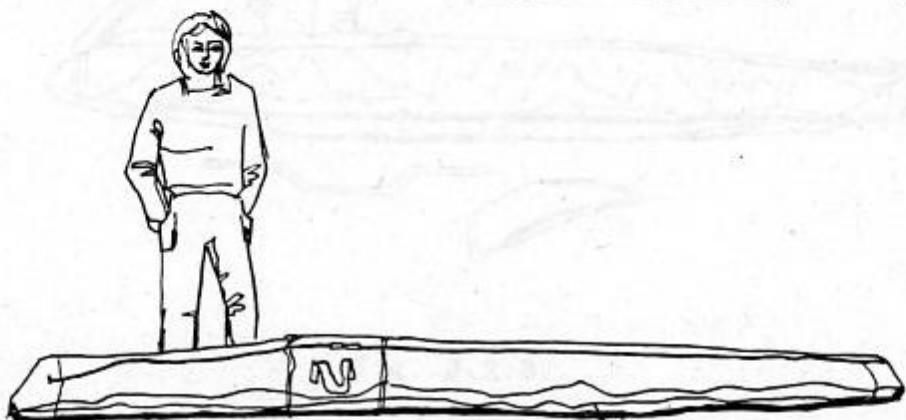

Fig. 3.2.1.
1. With the glider in the bag (6 metres long) lay the glider on the ground (Fig. 3.2.1).